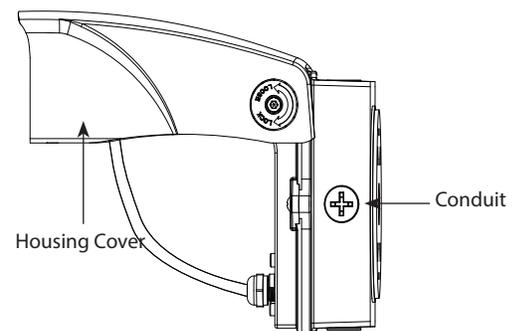
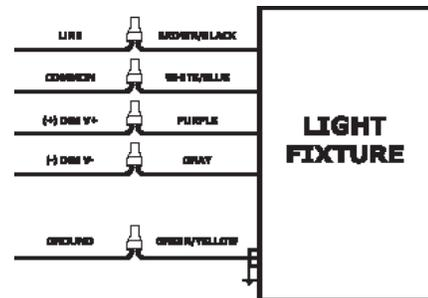

Fig: 2
Fig: 13
2. Open Housing Cover and rotate to a 90° angle as shown in Fig. 2.
7. Wire the Housing leads to supply wires using UL listed wire connectors according to NEC and local codes (Fig. 13). Push all wires into the housing.
10. For Conduit wiring, remove Side Conduit Cap using a screwdriver as shown in Fig. 2. Feed supply wires through conduit opening with a suitable connector. Wire the Housing leads to supply wires using UL listed wire connectors according to NEC and local codes (Fig. 13). Push all wires into the housing. Follow mounting instructions.
Universal voltage driver permits operation at 120V thru 277V, 50 or 60 Hz. For 0-10 Dimming, follow the wiring directions as in Fig. 13.